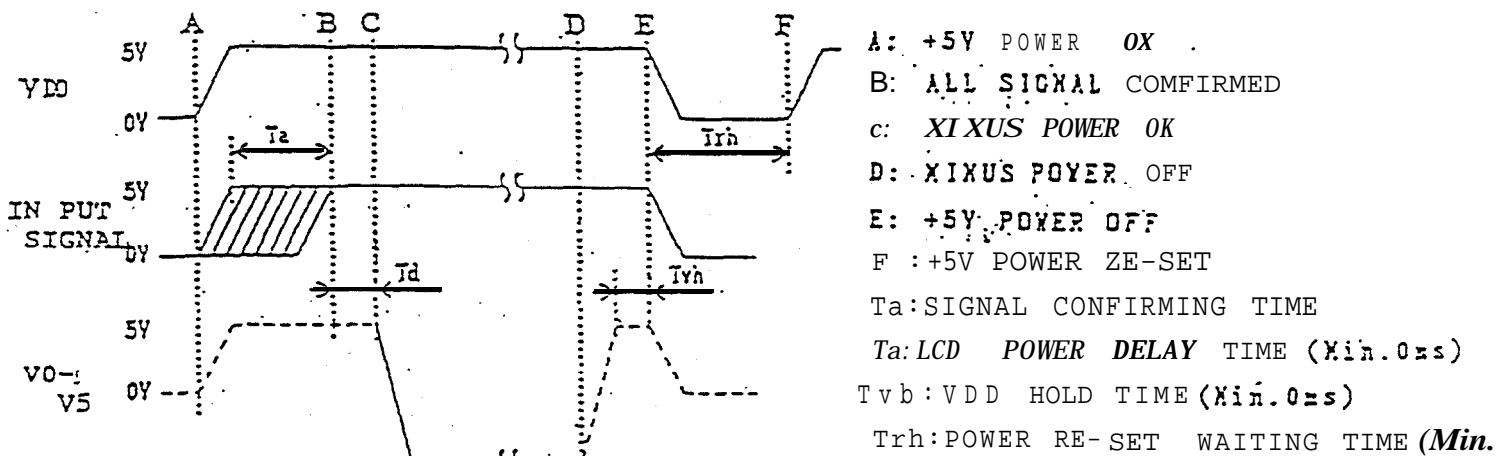
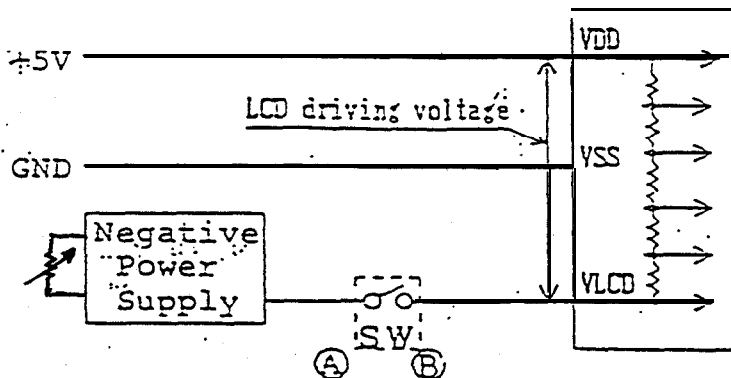
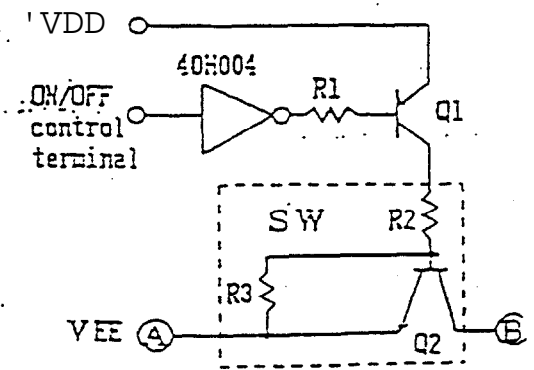

Fig. 1 Power On/Off Sequence
Fig. 2 Typical Power Supply Connection
Fig. 3 Typical SW Circuit
- (1) If the LCD panel is driven on DC, the electrochemical reaction within it causes a rapid reduction in display performance. The duty $50\pm 1\%$ of the FR signal must always be observed.
- (2) Follow the power on/off sequence shown in Fig. 1 to prevent latch-up or DC operation of the LCD module.
- (3) No LCD module must exceed the absolute maximum ratings. If a module is operated with any value exceeding absolute maximum ratings, its performance will deteriorate and may no longer restore to normal. In designing a system using LCD modules, utmost care should be taken of ambient temperature, input voltage signal fluctuations, supply voltage fluctuations, etc.
- (Note 1) The VLCD on/off operation shown in Fig. 1 indicates the switching operation of Fig. 2,
- [Note 2] Turning off the SW (Fig. 2) will open the VLCD terminal. Therefore, the LCD driving voltage (VDD-VLCD) will become zero 100ms(Max.) later.
- (Note 3) A typical circuit for the SW portion of Fig. 2 is given, in Fig. 3 for reference.